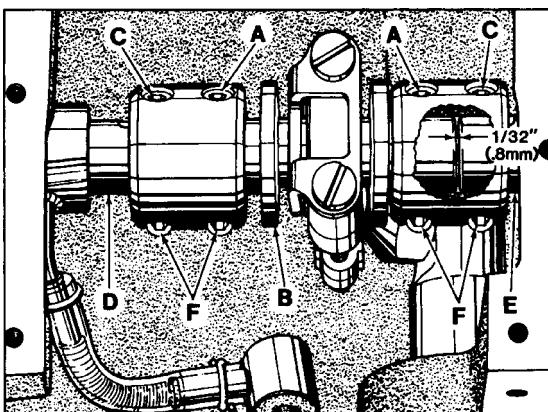

Fig 18
As viewed looking down from rear of machine, spot screws (A. Fig. 18) in the couplings must align with the spots in the looper drive crank (B) and set screws (C) must align with the flats on crankshaft (D) and mainshaft (E).
Looper drive crank (B, Fig. 18) must be positioned laterally with 1/32 inch (.8mm) clearance between it and mainshaft (E) as shown in Fig. 18. Once these settings are made, it is very important that the couplings are tightened in the following sequence for best performance.